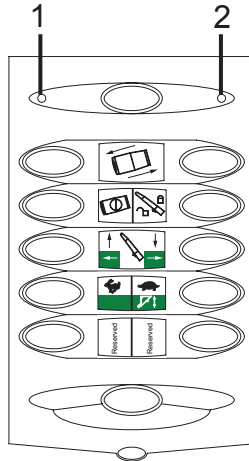

Figure 133
1. The Battery Low (Figure 133, Item 1) and Active (Figure 133, Item 2) LED indicators on the transmitter are used to indicate the status of the transmitter (transmitter for Traditional Controls used for illustrative purposes).